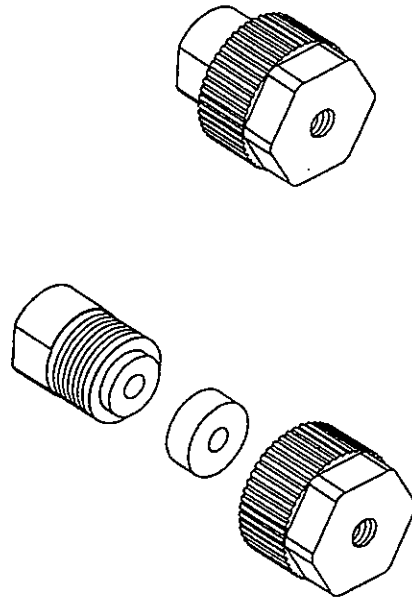

Figure 9.13 Disassembling the line filter
- (1) Disconnect the tubing from the line filter, and slide the filter horizontally to remove it from the holder.
- (2) Open the body of the line filter using a wrench, and remove the filter inside. See Fig. 9.13.
- (3) Mount a new filter and close the body using a wrench.
- (4) Reconnect the tubing and fix it to the holder. The line filter must have its thin (hole) section facing upstream and its thick section facing downstream so that the direction of flow of the EL and that of the filter are matched.